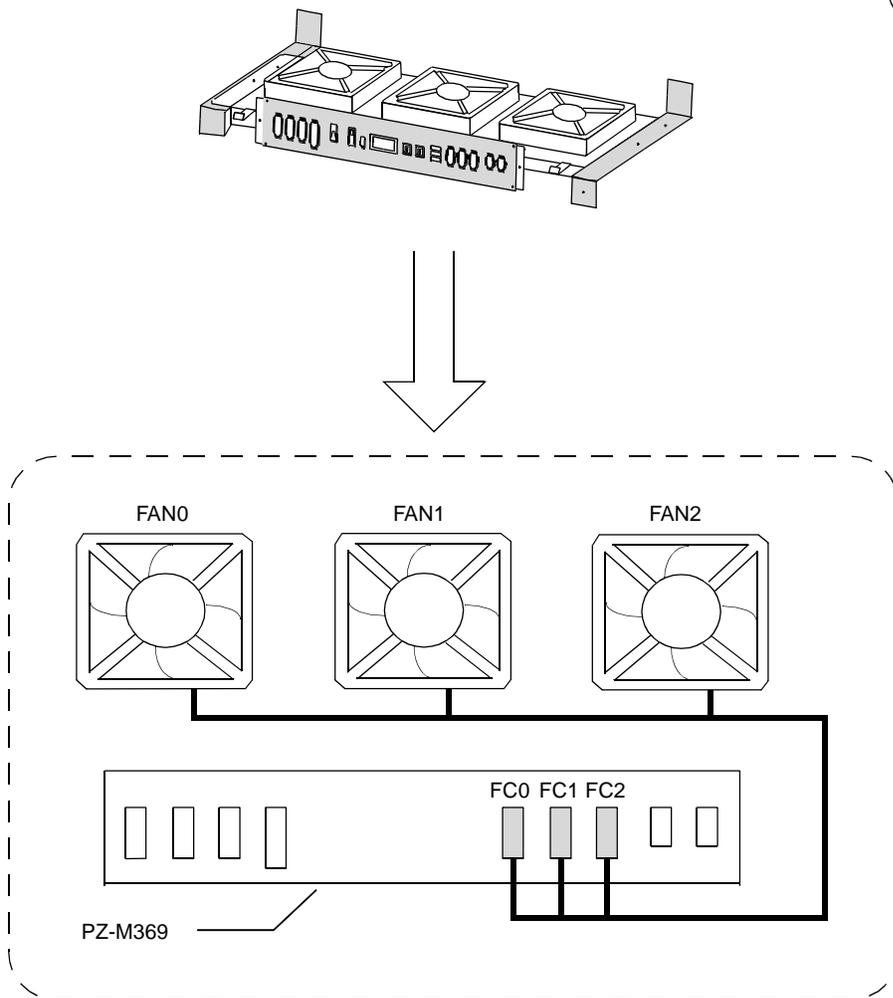

Figure 005-9 FAN Cable Connections for FC0/FC1/FC2 Connectors
STEP 9 : Connect the FAN cables for “FC0,” “FC1” and “FC2” connectors on the PZ-M369. Refer to Figure 005-9.
Note: Before inserting the FANU into the FAN BOX, connect the FAN cables for “FC0”, “FC1” and “FC2” connectors on the PZ-M369. Refer to Figure 005-9 on the next page.